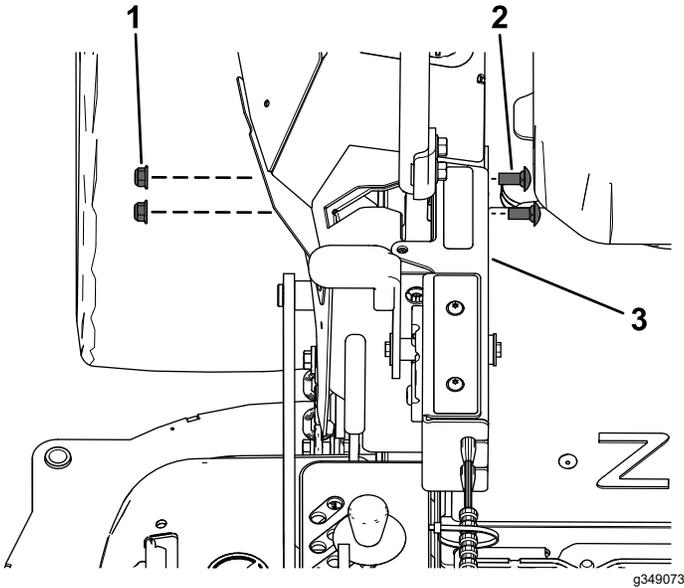

Figure 11
- Secure the control box to the right motion-control cover using 2 carriage bolts (3/8 x 7/8 inch) and 2 locknuts (3/8 inch) as shown in Figure 11.